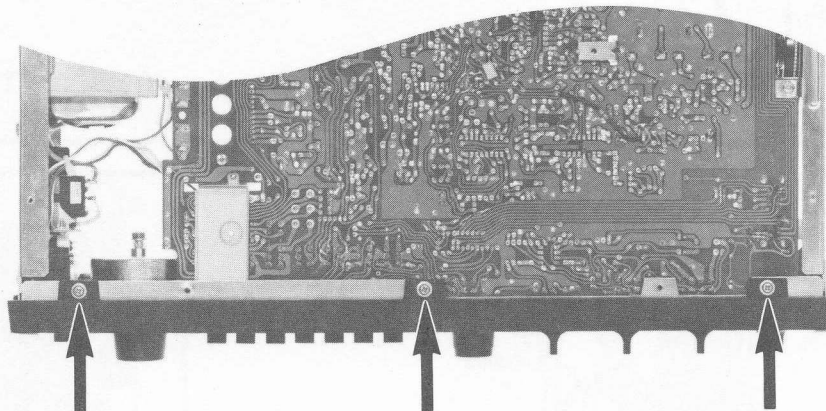

Figure 3-5
- c. Remove three screws from bottom of Front Panel (Figure 3-5).